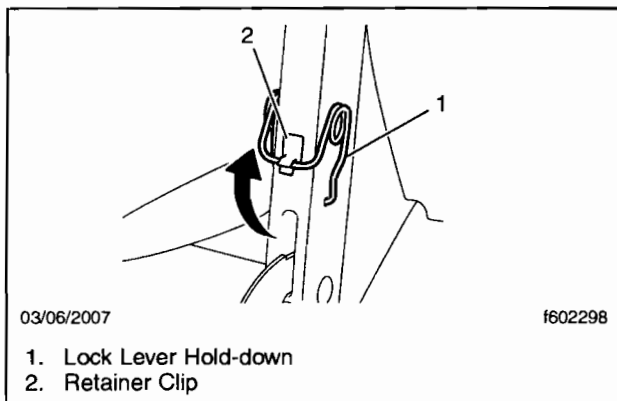

Fig. 5, Securing the Lock Lever Hold-down
- 3.1 Release the lock lever hold-down, and secure it under the clip. See **Fig. 5**.